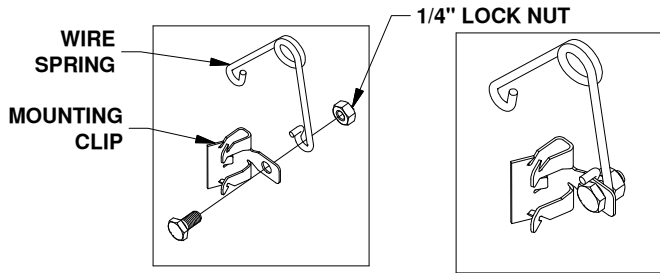

FIGURE B1:
1. Locate the 1/4" cap screw and nut, along with the wire tension spring and mounting clip. Pass the 1/4" cap screw through the mounting clip and the wire spring as shown in figure B1. Thread the 1/4" lock nut onto the 1/4" cap screw. Tighten the lock nut just enough that the spring will stay in place but will still be able to rotate around the bolt if needed, see figure B2.